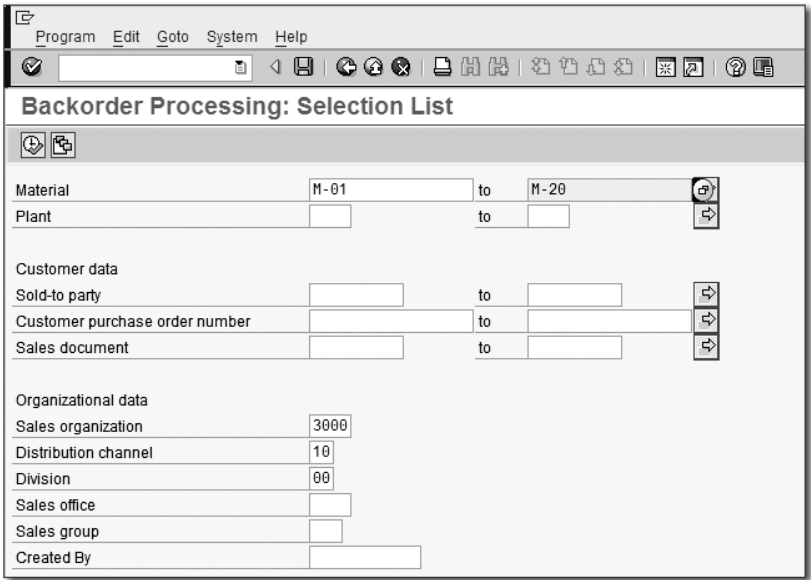

Figure 3.26 Backorder Processing Selection Screen
- 1. On the initial screen, specify material or the material number range you want to review. You can also specify the plant or range of plants, as shown in Figure 3.26.